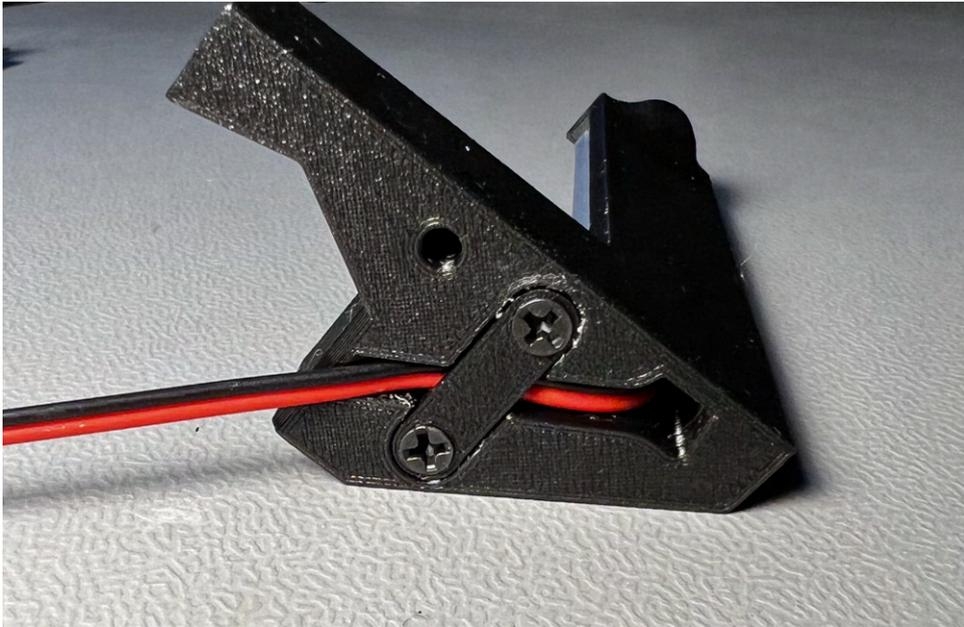

Figure 16: Strain relief installed on light holder.
3. Now it's time to install the strain relief for the wiring. Utilize the printed strain relief and two self-threading screws to mount it, just like demonstrated in Figure 16.